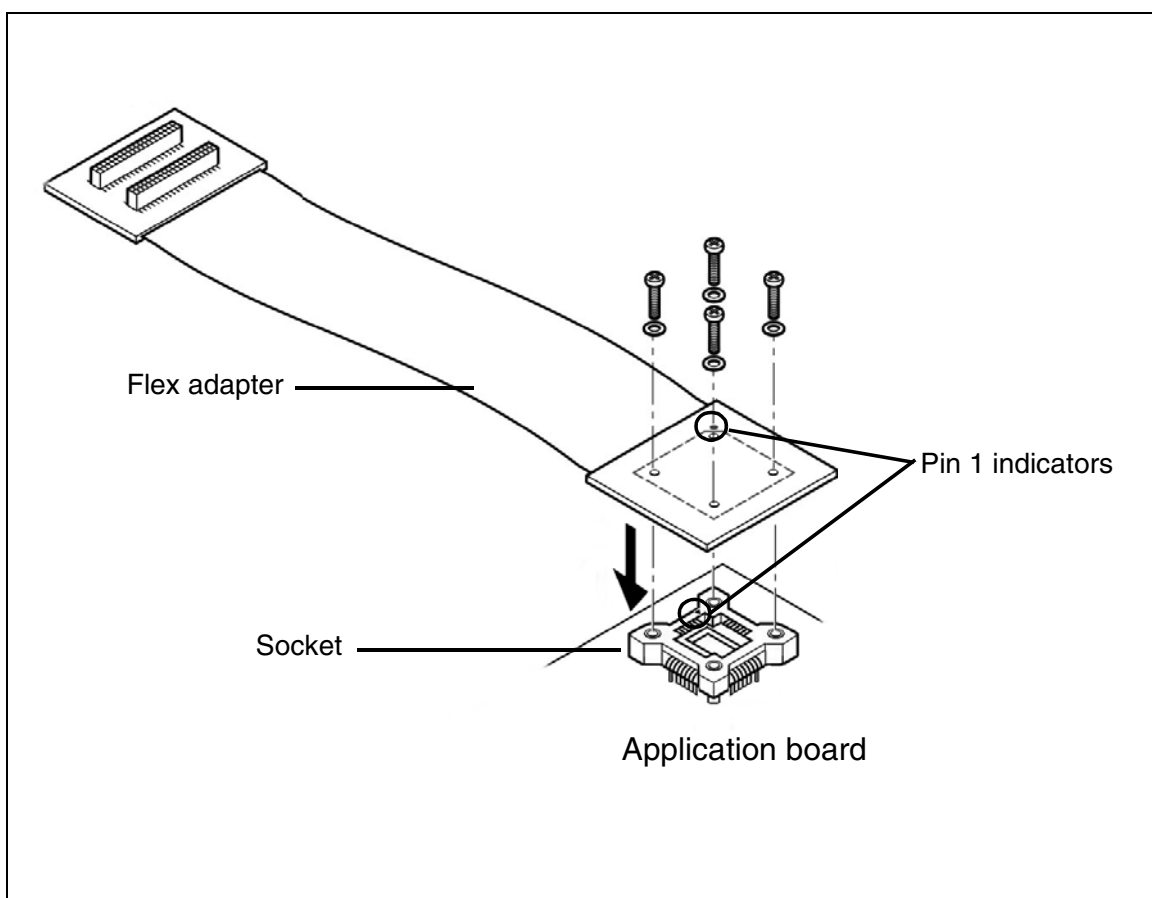

Figure 7: TQFP80 connection scheme
- 2 Align the pin 1 indicators on the TQFP80 end of the DB520 flex adapter and the TQFP80 socket. Then insert the connector on the flex adapter into the socket on your application board as shown in Figure 7, and fasten with the provided screws.